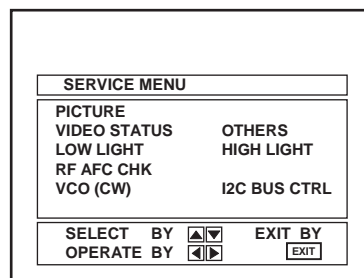

Fig. 1
- 1) Press the DISPLAY key and the VIDEO STATU key on the remote control unit simultaneously. The SERVICE MENU screen will be displayed. (See Fig. 1.)